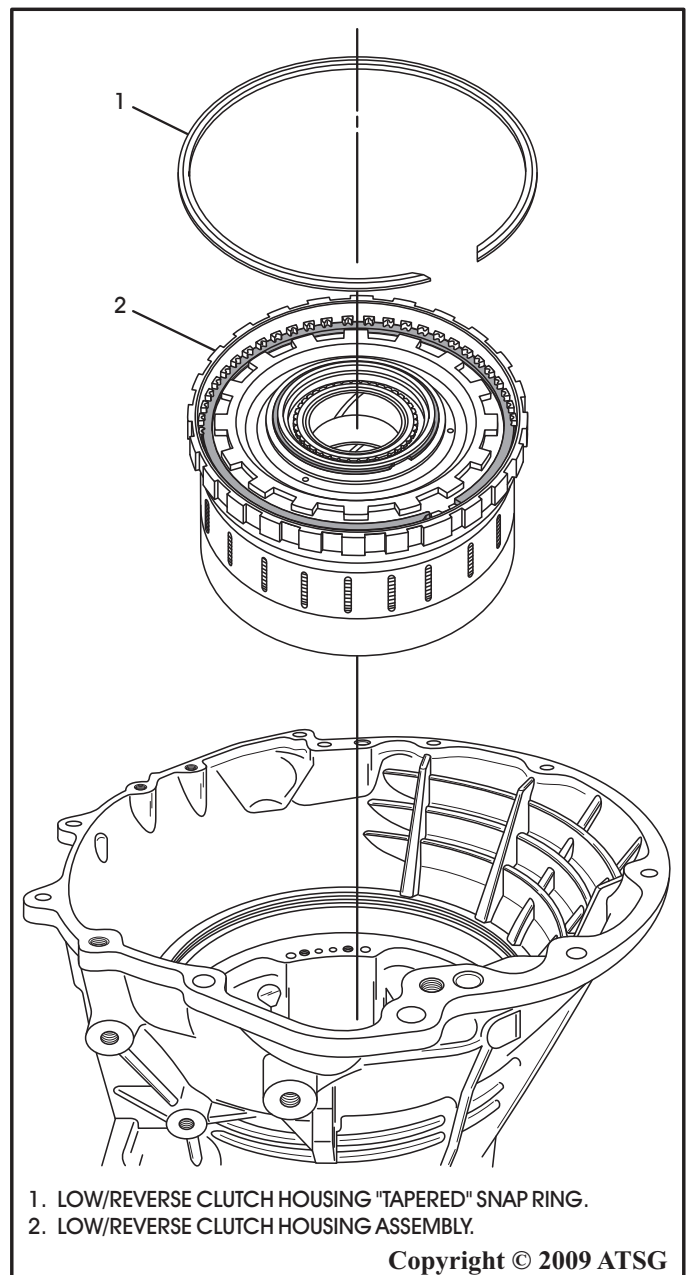

Figure 45
49. Remove the "Tapered" snap ring from the case that retains the low/reverse clutch housing in transmission case (See Figure 45).
50. Remove low/reverse clutch housing assembly from the transmission case by lifting straight up, as shown in Figure 45, and set aside for component disassembly.